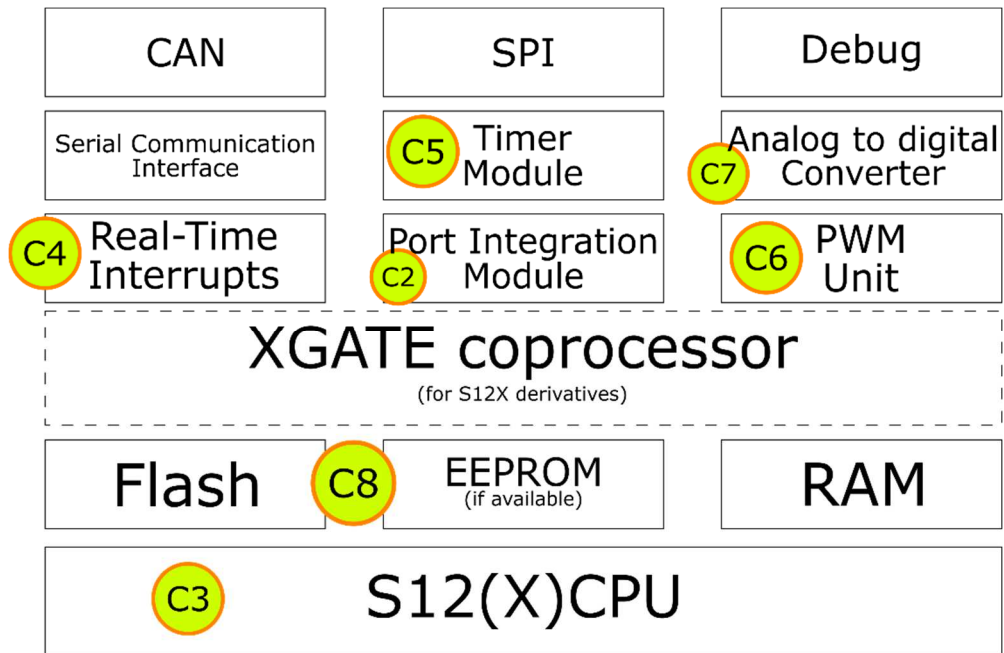

Figure 1.2 Block diagram of the HC9S12 with the associated chapter
Although built around the same CPU, various members of the S12 family differ by the hardware configuration packaged with the S12 core. This means that available modules and ports will vary from one chip type to the other. Complete descriptions of chip capabilities and register definitions are available in corresponding datasheets. If you are using the SofTec Microsystems installation package, you can find datasheets on your system at `c:\Program Files\SofTec Microsystems\SK and ZK-S12(X) Series\DataSheets\ZK-S12-B\[<target MCU>]`, where <target MCU> stands in for the name of the microcontroller. Alternatively you can access the datasheets online directly from the producer's website [3, 4, 5]. The variety of modules that are present on this device are presented in Figure 1.2 which also points out the chapters which are going to detail each of them. Only the basic modules are going to be discussed as the communication modules are out of the scope of this book. These are detailed as follows: